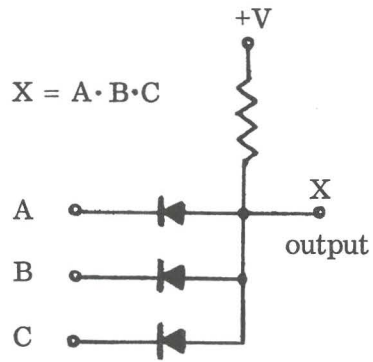

Fig. 75-1 DL AND
DIODE LOGIC is the most common form of logic used with discrete components. Diodes are used for the AND and the OR Logic functions. Transistors are not used and this type of logic is the least expensive for standard component circuits. Transistors are used for the NOT circuit. The OR gate, however, can not be used to "drive" any other logic element but must be followed by a NOT. Diode logic is shown in Fig. 75-1, 2, 3.
1. This experiment consists of wiring the circuits for each of the nine Integrated Circuits shown in Fig. 75-1 thru 9. The input switches are then set for the various combinations of inputs and a Truth Table is prepared for each of the circuits. The available circuit components are shown in Fig. 75-10.